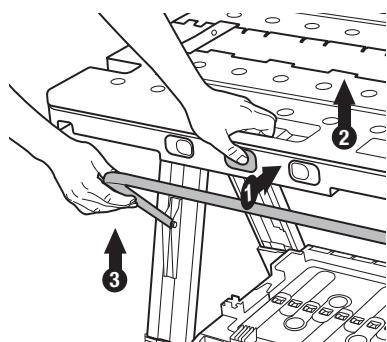

Figure 4
5. Raise each side of the tabletop with one hand, press the button inward, and with the other hand lift the supporting bars and snap it into the slot under the tabletop. Then release the button so the supporting bar is fixed and the table top is stable. (Figure 4)